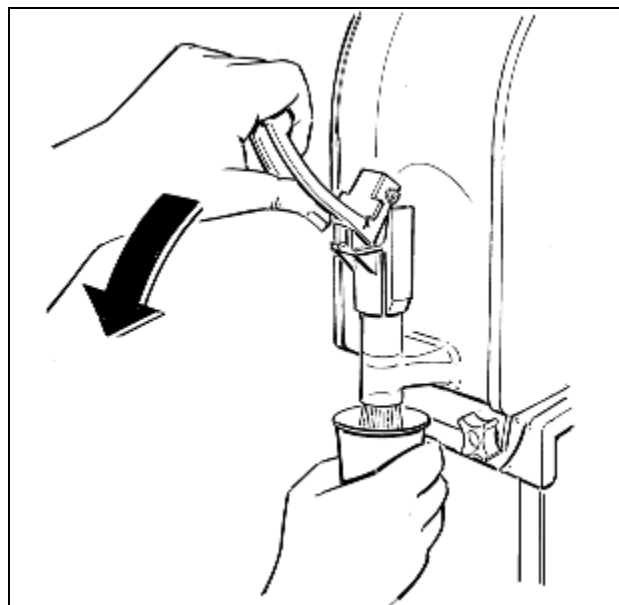

Fig. 26
a) To dispense the product, position the cup under the tap and pull the dispensing lever (see figure 26).